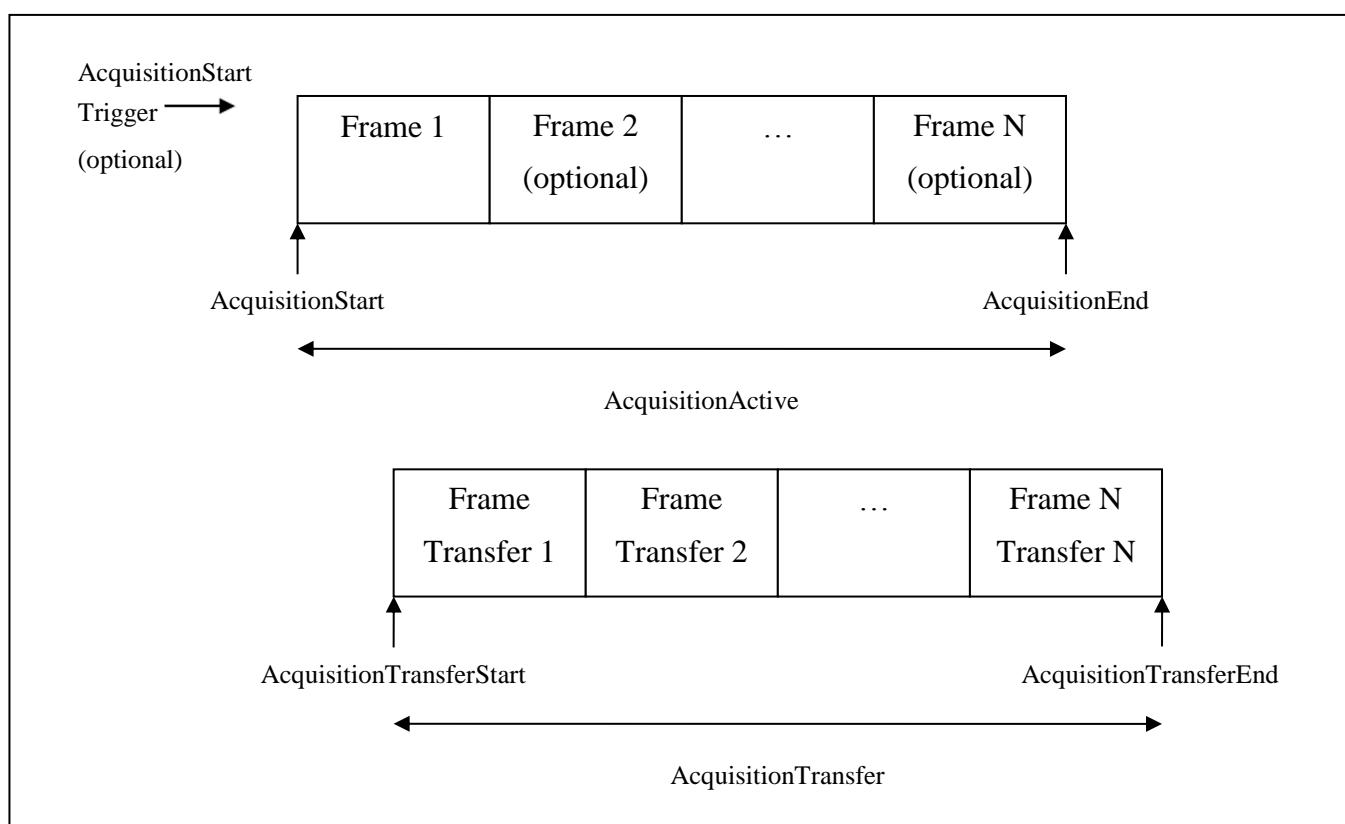
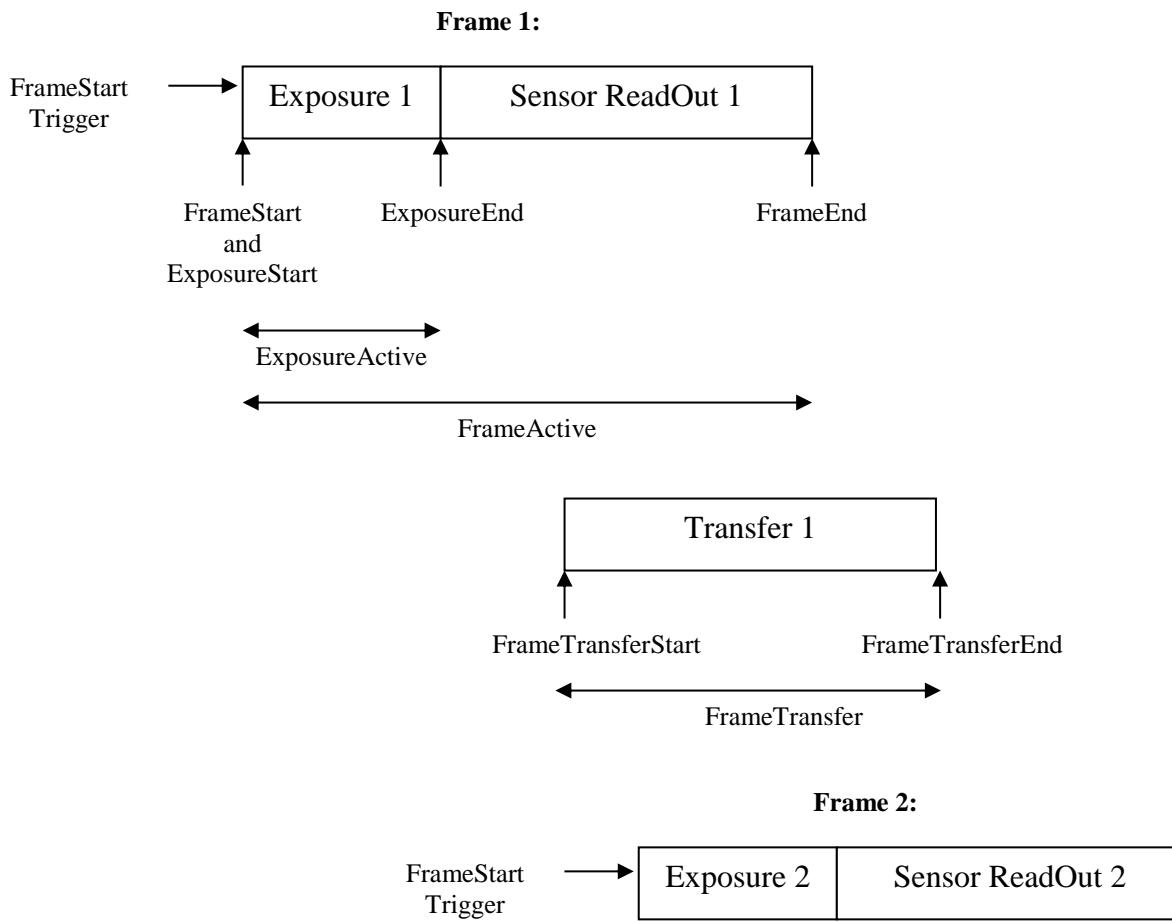

Figure 5-1: Acquisition signals definition
Figure 5-3: Frame signals definition
An **Acquisition** is composed of one or many **Frames** made of **Line(s)**. The **Frames** of an **Acquisition** can optionally be grouped in smaller **Bursts** that are triggered individually. An **Acquisition** is defined as the capture of a sequence of one or many **Frame(s)** (See Figure 5-1).
**A Burst of Frame(s)** is defined as the capture of a group of one or many **Frame(s)** within an **Acquisition** (See Figure 5-1). If a **FrameBurstStart** or **FrameBurstActive** trigger is enabled (its TriggerMode=On), an acquisition can be broken in many smaller **Bursts**. In this case, each **Burst** has its own trigger. If only the **FrameBurstStart** trigger is enabled, **AcquisitionBurstFrameCount** determines the length of each burst. If the **FrameBurstStart** and **FrameBurstEnd** triggers are enabled, they are used to delimit the length of every single burst. If the **FrameBurstActive** trigger is enabled, it determines the length of each individual burst (the burst lasts as long as the trigger is asserted).
**AcquisitionStatusSelector** and **AcquisitionStatus** can be used to read the status of the internal acquisition signals. The standard acquisition signals Status are: **AcquisitionTriggerWait**, **AcquisitionActive**, **AcquisitionTransfer**, **FrameTriggerWait**, **FrameActive**, **ExposureActive** (See Figure 5-1 and Figure 5-3).